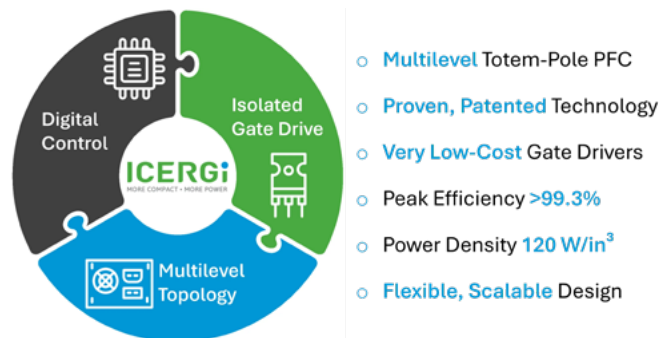

Figure 1: ICERGi Multi-Level Ecosystem – Products & IP
A standout advancement in the power system space is the Multi-Level (ML) topology. The ML topology delivers two paramount advantages – highest power density and industry-leading efficiency. ICERGi's leadership in this ML space is underpinned by a patent-backed product ecosystem covering advanced isolated gate drive technology, digital control solutions designed specifically for multilevel applications and ownership of the principal patent for the ML topology itself (Figure 1).